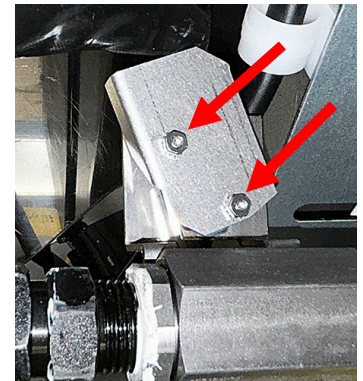

Figure 6
13. Remove the two (2) nuts attaching the return switch cover under the second (2nd) vat. The switch is located under the rear side of the vat attached to the return valve (see Figure 6).